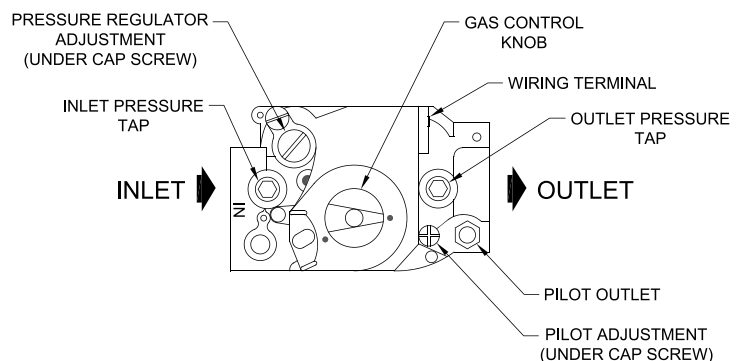

Figure 10.2: Top View of Gas Valve
1. Connect a manometer to the inlet pressure tap on the gas valve (see Figure 10.2).
5. Connect a manometer to the manifold (outlet) pressure tap on the gas valve (Figure 10.2).